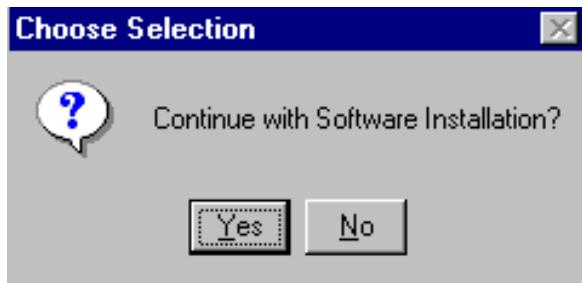

FIGURE 31. Continue Installation Dialog
- 8.64 Click Yes to continue the software installation. See Figure 31.